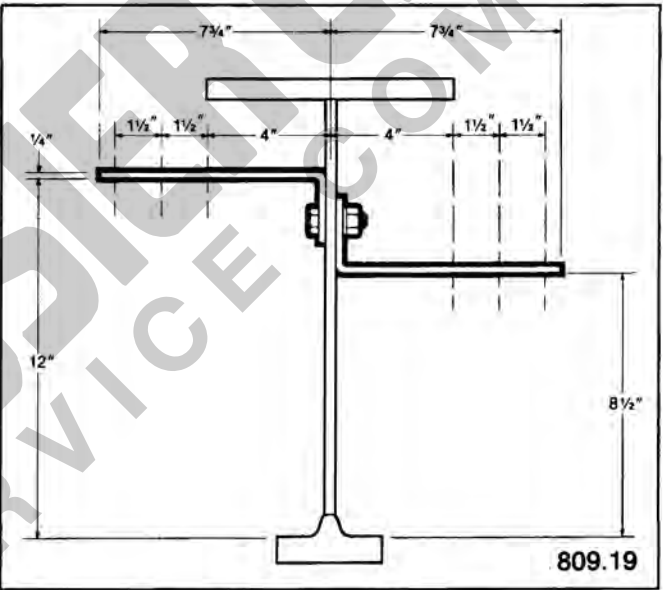

FIGURE 41
- 809.19 (Refer to Figure 41): For up to 8-wire (4-run) dual conductor bottom-entry electrification or 6-wire single conductor bottom-entry electrification at 8½" above operating flange surface of 12" depth 604 *SuperTrack™ Girder* or 605 *TrojanTrack™ Girder*. On girder depths of 14" or greater, electrification can be either 8½" or 12" above operating flange surface.